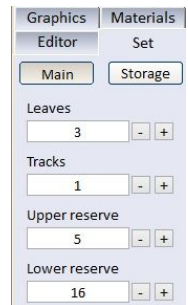

Fig. 65 - Front editor - 'Set' tab
- The next tab in the **'Sliding door editor'** is **'Set'**. If the storage shelf divides the wardrobe doors, you can choose the main door and the storage door using buttons:  . You can set the number of leaves (separately for both sets), the number of tracks for the door (there is one double track by default), and the amount of the upper and lower reserve (Fig. 65). The reserve determines how much free space is above and below the door leaf. This is important when choosing hardware and in the case of uneven floor and ceiling. In the program you can determine the maximum and minimum value of the reserves for the selected door system.